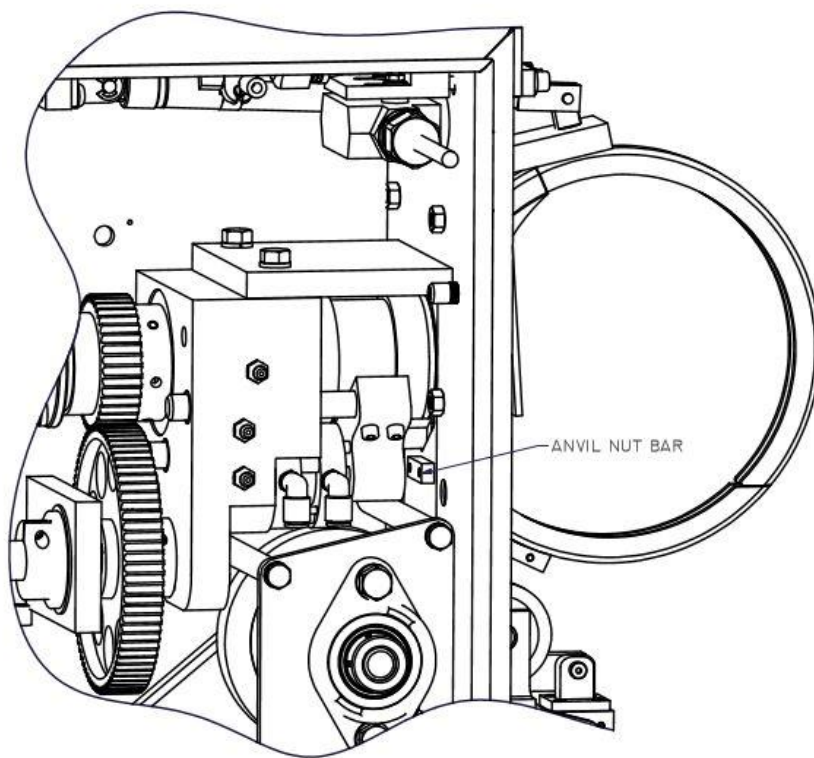

Figure 6.2.2 Anvil Nut Bar Location
2. Open the cabinet door. Locate the anvil nut bar. The nut bar is on the upper inside front of the cabinet below the twister. Reference Figure 6.2.2.